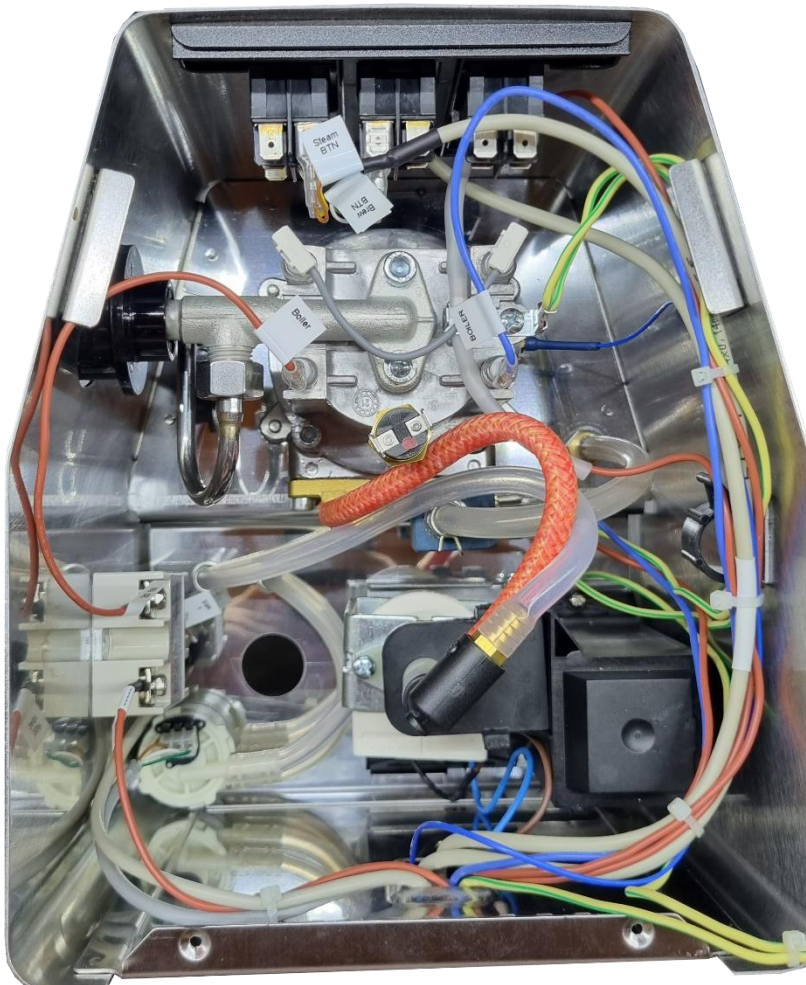

Fig. 7.4
- Connect the brown and blue wire boiler plugs. The plugs are not round like the original plugs but will fit OK. Make sure the plugs are well inserted and not lose you can tighten the connector with pliers for a firm contact if needed. (fig.7.4)